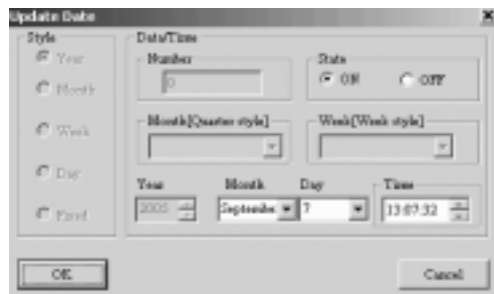

Fig. 3.20 Setting Time
- ※ Add: When you need to add a time, click “add” button, the dialogue frame as in Fig. 3.20 will be displayed:
- ※ Update: When you want to update a time, put the cursor on the said time record and click UPDATE. As a time setting frame, similar to that shown in Fig.3.20 appears, reset the time, click OK and the said time record is modified.